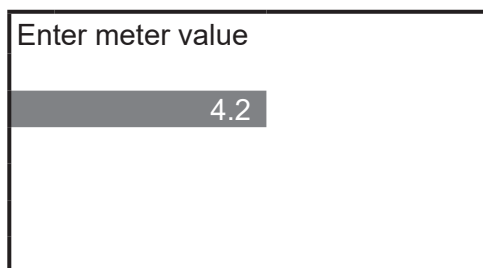

Figure 38 Current value input display
5. By selecting F4 (OK) in the above step, the converter's indicator will flicker and I.OUT OUTPUT MODE display will appear. The HART Communicator displays on its screen the present current input value. (Figure 38) Measure the output current from the converter and enter it into the device. Once the input has been completed, press F4 (ENTER). To cancel, press F3 (ABORT) and proceed to step 10.
and proceed on to the next step. By choosing “2. No”, the display of that shown in Figure 38 to show the current input will appear. Pressing F3 (ABORT) takes you back to the Diag/Service menu where you should proceed to step 10.
8. By selecting F4 (OK) in the above step, the converter's indicator will flicker and the _IN I.OUTPUT MODE display will appear. The HART Communicator shows on the display the present current input value. (Figure 38) Measure the output current from the converter and enter this value into the device. Once this is completed, press F4 (ENTER). To cancel, press F3 (ABORT) and proceed to step10.